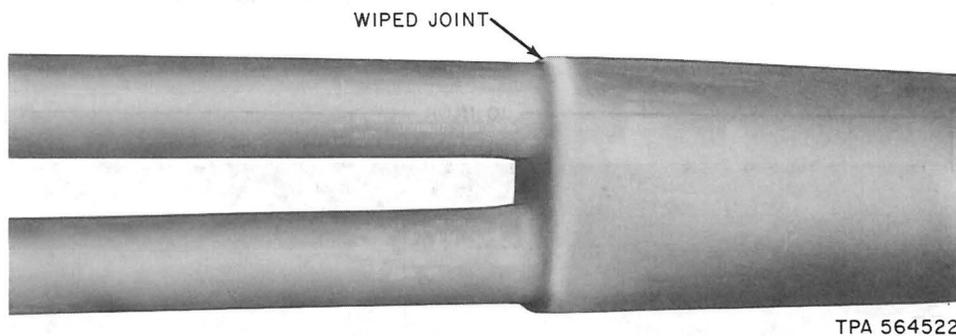

Fig. 3—Wiped Joint
3.04 Wipe the sleeve as outlined in Section 633-300-201 using a minimum amount of heat to avoid damaging the conductor insulation (Fig. 3).